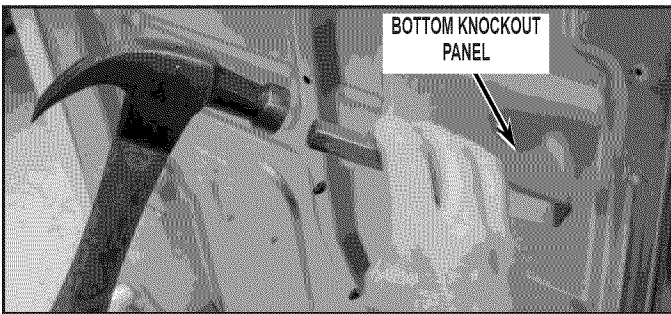

FIGURE 25
2. Using two (2) corner posts from the shipping carton or other protective material on the floor beside the dryer, gently lay dryer on left side.
3. Using either a 1/8" drill bit and drill or a cold chisel and hammer, remove the six (6) knockout retaining tabs around the edge. See *Figure 25*.